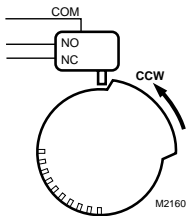

Fig. 2. Switching configuration for counterclockwise rotation (top view).
1. Determine desired switching action (if switch is to energize during clockwise ↻ or counterclockwise ↻ rotation). With switch cam as shown in Fig. 2, the normally closed contact opens during counterclockwise ↻ rotation and the normally open switch closes.
- 5. With a screwdriver, move cam inside switch assembly to the appropriate position. Remember, the direction of travel of the cam for switching purposes (see Fig. 2 and 3). Monitor the switch closure with an ohmmeter for a continuity check. See Table 1.